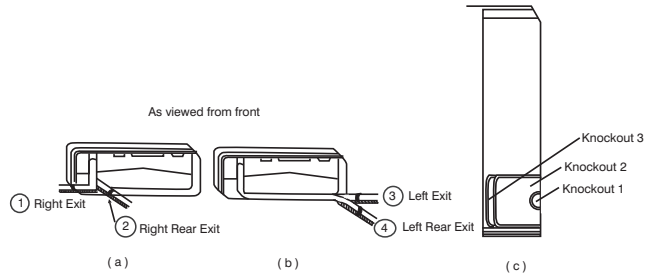

Fig. 8 – Refrigerant Line Routing
The refrigerant lines may be routed in any of the four directions shown in Fig. 8 (a) and (b).
1. Use a small saw blade to carefully remove the corresponding plastic covering on side panel and drill the appropriate size hole where the pipe is going through the wall. See Fig. 8(c).